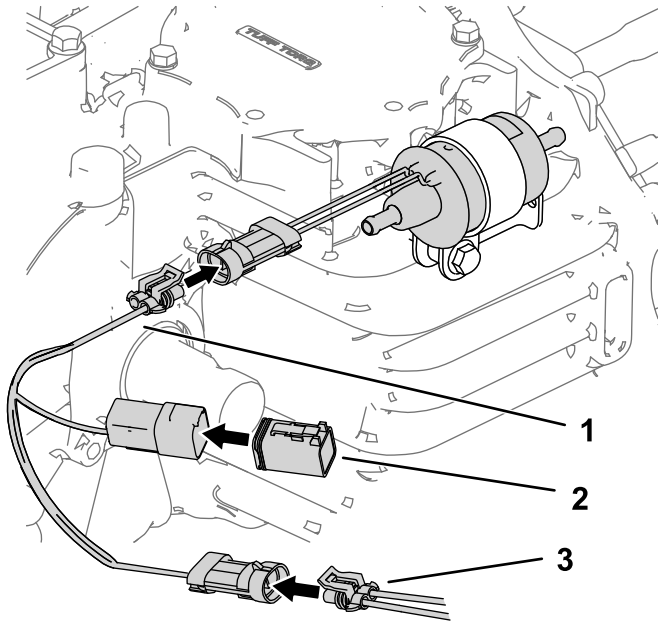

Figure 19
2. Install the noise reducer harness to the fuel pump and the wire harness disconnected previously (Figure 19).